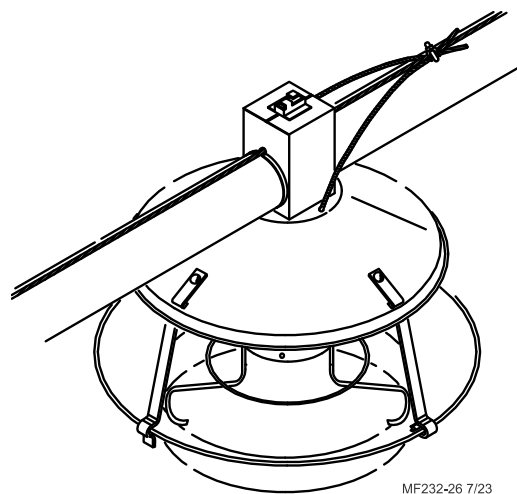

Figure 38. Cable Assembly Installation
8. Thread the cable assemblies through the holes on each side of the pan shield from the underside. Then clamp to the master cable with a cable clamp, see **figure 38**.